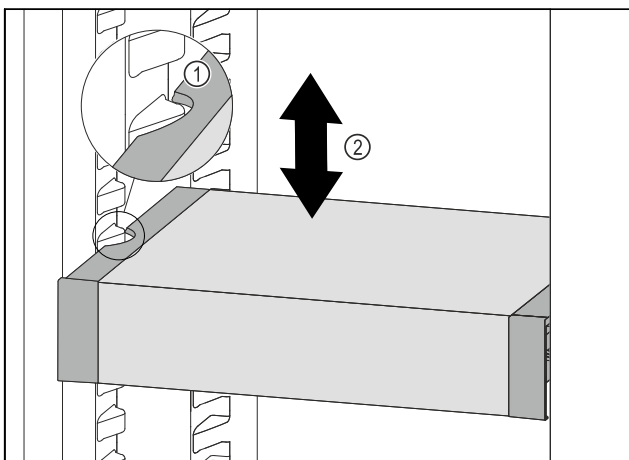

Fig. 100
- ▶ Pull VarioSafe forwards until the recesses in the side of the VarioSafe are at the level of the support rib in the refrigerator compartment. *Fig. 100 (1)*
- ▶ Move VarioSafe up or down in the refrigerator compartment until the desired height is reached. *Fig. 100 (2)*